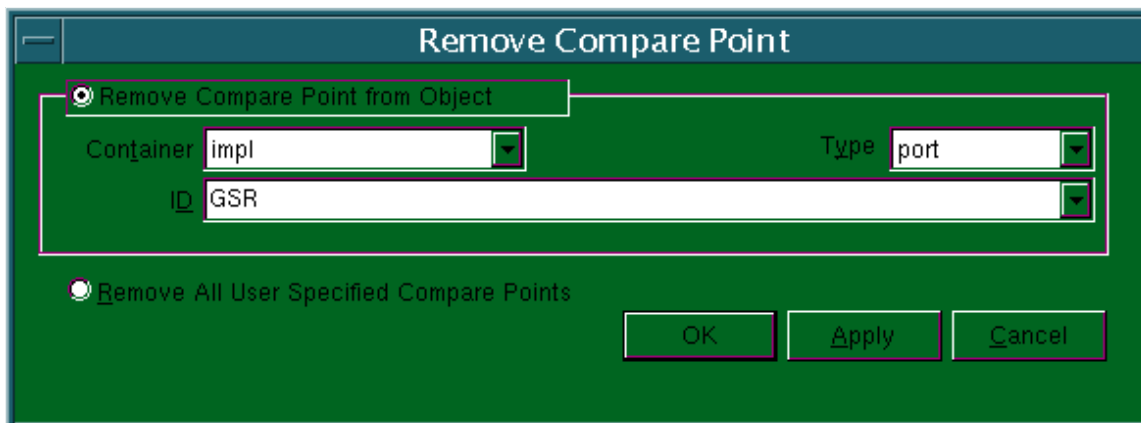

Figure 8: Removing Compare Point
4. If the option is selected to bring GSR or GTS as a port in the back-annotated design, then the compare points for these ports must be removed, otherwise they will be reported as unmatched points by Formality. This can be accomplished via the Formality GUI by selecting Setup > Compare Points > Remove in the pull-down menu, as shown in Figure 8.